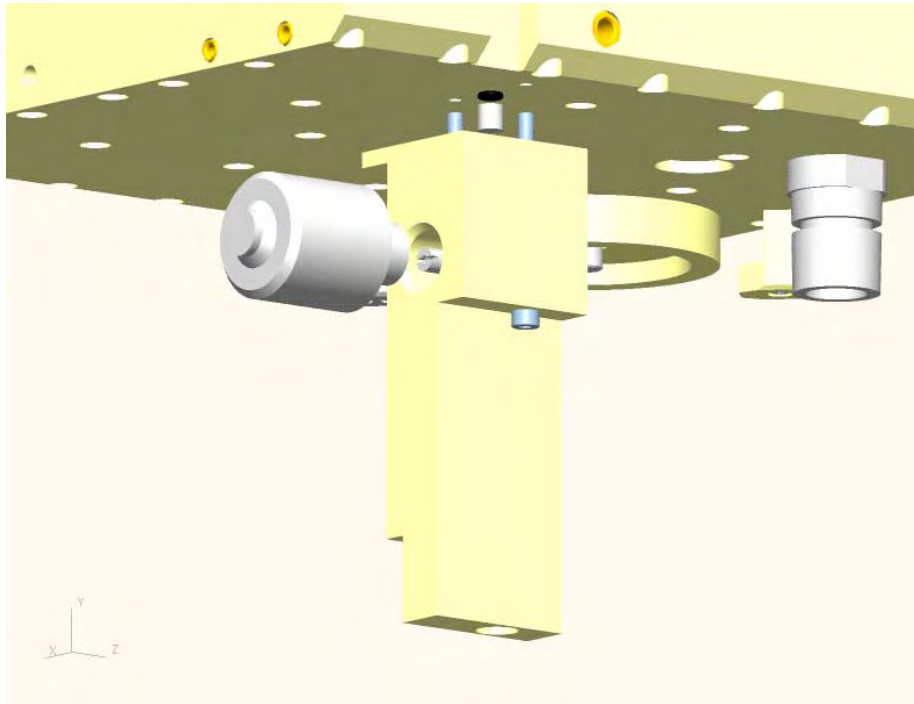

Figure 4-23
The oxygen monitoring system (Figure 4-23) provides the operator with a real-time indication of the oxygen percentage being delivered to the patient. The system incorporates an oxygen sensor (OS), which uses galvanic fuel cell technology, to develop an output voltage which is proportional to the partial pressure of oxygen within the sampled gas. The sample flow is developed by a restrictor/orifice (R1) whose inlet source is the reservoir. The small gas sample (0.4 l/min nominal) travels down through the oxygen sensor block and is directed through a jet onto the heart of the oxygen sensor. The sample gas is then exhausted to atmosphere. The oxygen sensor interfaces with circuitry on the Sensor board. The microprocessor uses this information to display the measured oxygen % on the monitoring screen and to evaluate whether alarms thresholds have been violated. A preset alarm is activated when the monitored oxygen % falls outside of the allowed range. The manufacturer recommends replacement of the oxygen sensor after every 12 months of operation, or as required. Failure to do so may result in an inaccurate monitored oxygen %. The oxygen sensor may be fully calibrated using the automated function available on the User calibration screen. Additionally, a single point calibration can be performed whenever the 100% O₂ function is selected and allowed to finish the five-minute time interval.